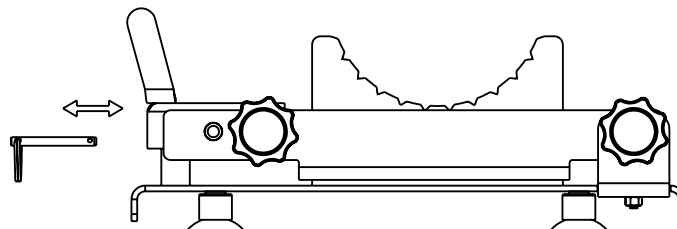

Figure 2
- Before you start using your equipment, remove the safety pin, reinsert it when you are finished using it, and leave the machine in a safe position.(Figure 2)
**Warning: Keep the safety pin attached and the handle in the position in Figure 2 when you don't use your product in order to prevent injuries that may occur as a result of accidental falling of the blades.**